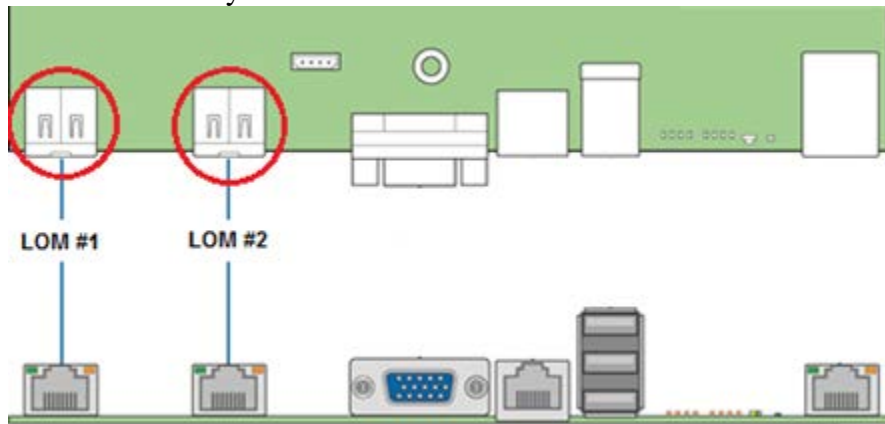

Figure 1
3. Update the Manageability Engine (ME) firmware from revision 03.00.07.114 to 03.00.07.154.
7. Update the RJ45 connectors for onboard LAN ports 1 and 2 to improve the LAN cable connectivity. The locations of the IO connector are shown as Figure 1:
6. Update the RJ45 connectors for onboard LAN ports 1 and 2 to improve the LAN cable connectivity. The locations of the IO connector are shown as Figure 1.